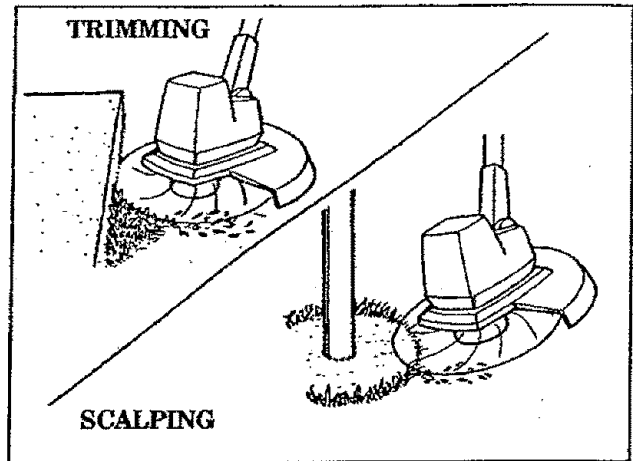

Figure 10
1. **TRIMMING** – Figure 10. Hold the bottom of the trimmer head about 3 inches above the ground and at an angle. Allow only the tip of the line to make contact. Do not force the trimmer line into the work area.
2. **SCALPING** – Figure 10. The scalping technique removes unwanted vegetation. Hold the bottom of the trimmer head about 3 inches above the ground and at an angle. Allow the tip of the line to strike the ground around trees, posts, monuments, etc. *This technique increases line wear.*